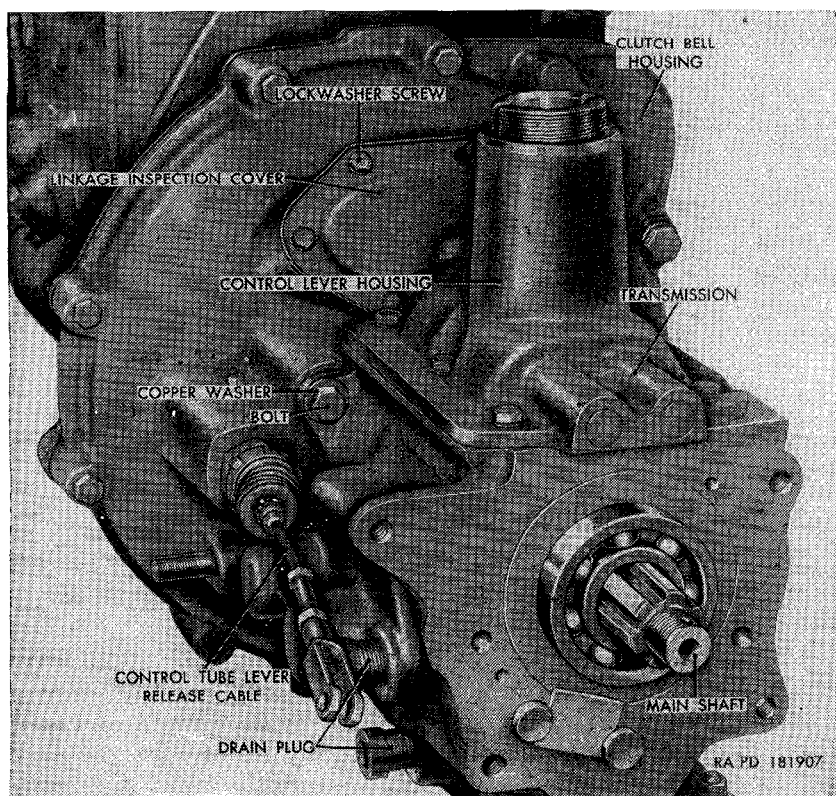
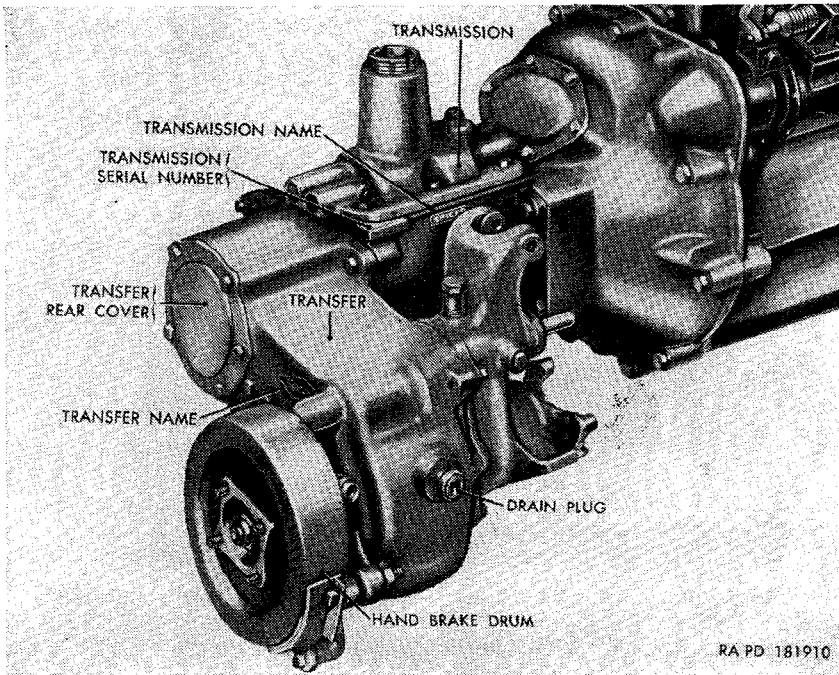

Figure 123. Transmission rear view, transfer removed—power plant removed from vehicle.
Figure 126. Transfer and transmission assemblies installed on engine—power plant removed from vehicle.
a. *Description.* The transmission (fig. 123) is a synchro-mesh, selective-gear-type, with three forward speeds and one reverse. Speed selection is accomplished manually by manipulating the transmission gear shift lever. The lever extends out of the top of the control lever housing into the driver's compartment of the vehicle.
- c. Remove six lockwasher screws securing the linkage inspection covers (fig. 123) to the top of the clutch bell housing. Remove the cover and gasket. Working through the inspection hole, disconnect the control tube lever release cable from the end of the release fork. Disengage the fork from the release bearing carrier and lift the fork out of the clutch compartment. Discard gasket.
- d. While supporting the transmission, remove the four bolts and copper washers (fig. 123) securing the transmission to the clutch bell housing. Pull the transmission straight back until the transmission input shaft is clear of the bell housing.
transmission to the clutch bell housing with four $\frac{7}{16}$ -inch copper washers and $\frac{7}{16} \times 1\frac{1}{4}$ bolts (fig. 123). Tighten the bolts evenly.
e. Working through the inspection hole in the top of the bell housing, install the release fork so the fork recess engages the bearing cover ball stud, and with the two large ends of the fork behind the release bearing carrier flanges. Engage the control tube lever release cable ball behind the two projections at the small end of the fork. Coat a new linkage inspection cover gasket with plastic-type liquid cement. Place the gasket and the inspection cover in position on top of the clutch ball housing (fig. 123). Secure cover and gasket to bell housing with six $\frac{1}{4} \times \frac{1}{2}$ lockwasher screws.
a. Description. The transfer is an auxiliary, two-speed gear unit, attached to the rear of the transmission. The transfer transmits power from the transmission to the front and rear differentials through propeller shafts. By manipulation of two transfer gearshift levers (T, fig. 11), additional high and low speed ranges can be selected, and power to the front axle can be connected or disconnected. The hand brake drum (fig. 126) and shoes are mounted on the rear of the transfer. A cover at the rear of the transfer provides access to the interior of the assembly when installing a power takeoff.
- b. Remove the drain plugs from the transmission (fig. 123) and transfer (fig. 126) and permit the lubricant to drain. After draining completely, install the drain plugs.
- c. Remove five bolts and external-teeth lockwashers securing the transfer rear cover (fig. 126) to the transfer case. Remove the cover and rear cover gasket. Discard gasket.
e. Coat a new rear cover gasket with plastic type gasket cement and position gasket and transfer rear cover (fig. 126) on the rear of the transfer case. Secure the cover to the case with five $\frac{3}{8}$ -inch external-teeth lockwashers and five $\frac{3}{8}$ x $\frac{3}{4}$ bolts.